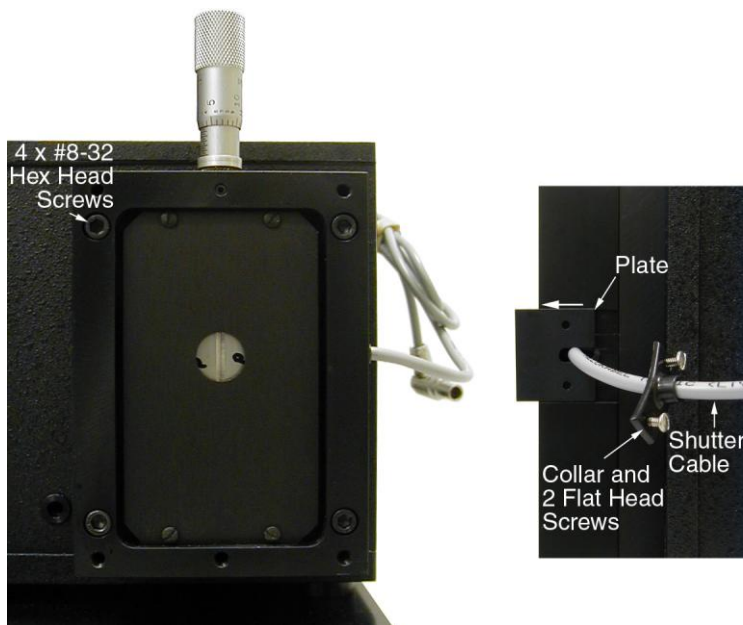

Figure 2-7. Manual Slit
- Using a 9/64" hex wrench, remove the four screws holding the manual slit. (see Figure 2-7)